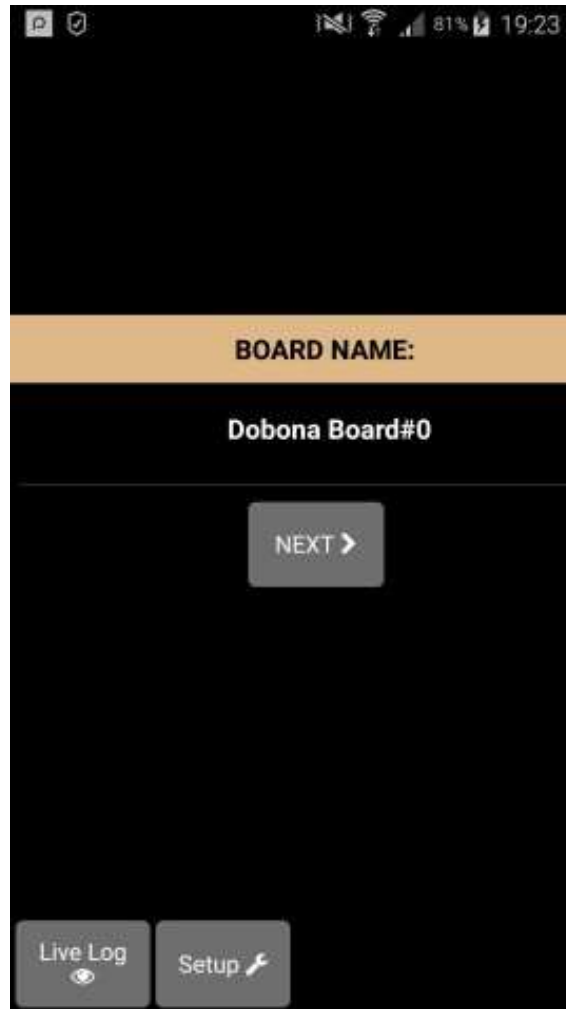
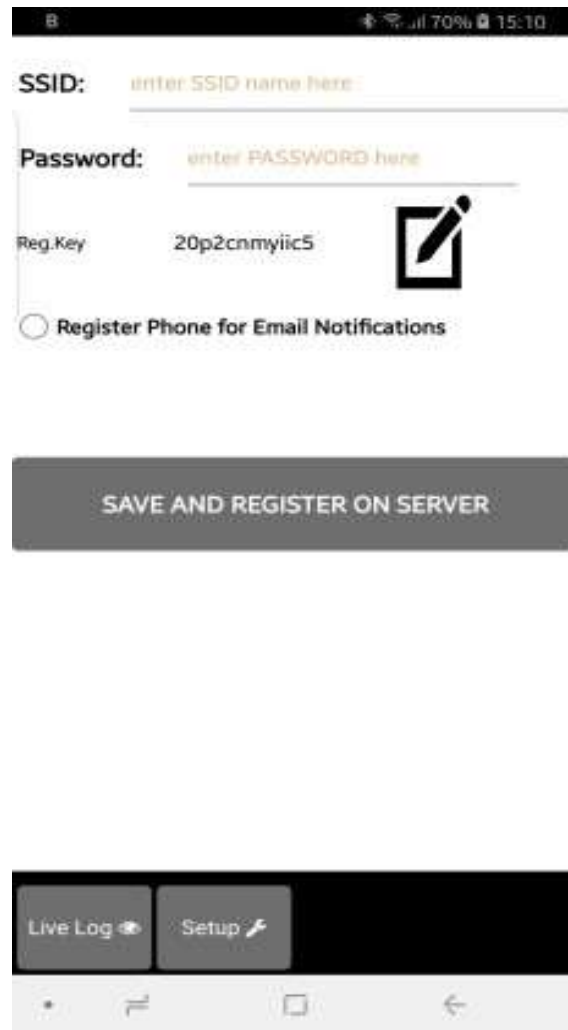

Fig 4.
Fig 5.
6. User is then presented with the next screen where he is prompted to enter a name for the dobona board he chose (Fig.4). Supposing he writes "MAIN_PLC" as name and makes sure the phone/tablet has an internet connection, and presses on the next button, he is taken to a new screen to enter the eDoboS credentials on the server (Fig.5).